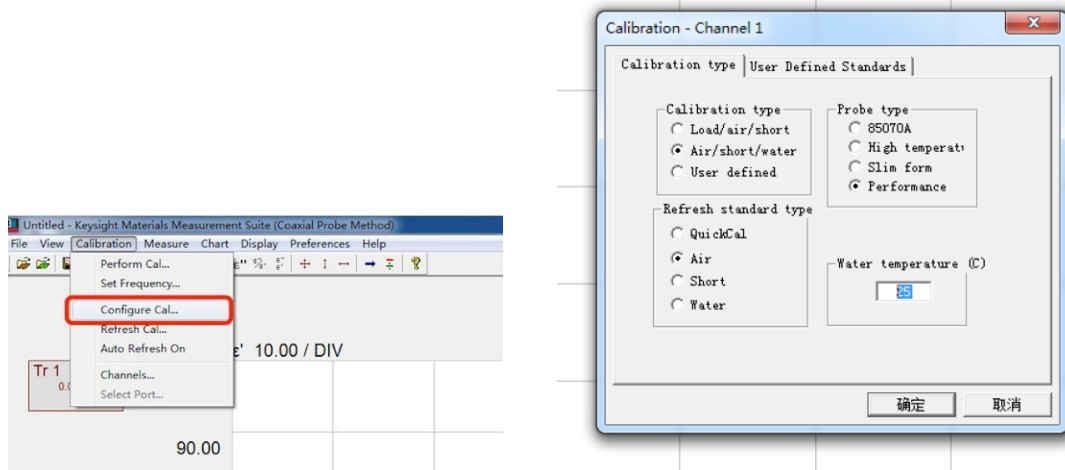

Figure 9. Calibration type settings
- (1) On the PC side, open the software **【Keysight Materials Measurement Suite 2016】**, select **【Coaxial Probe Method】**, and click **【Start】** to enter the main interface;
- (2) Calibration setup: as shown in Figure 9, select **【Calibration】** -> **【Configure Calibration】** to set the calibration type, probe type and water temperature (set to the actual temperature measured by mercury thermometer).